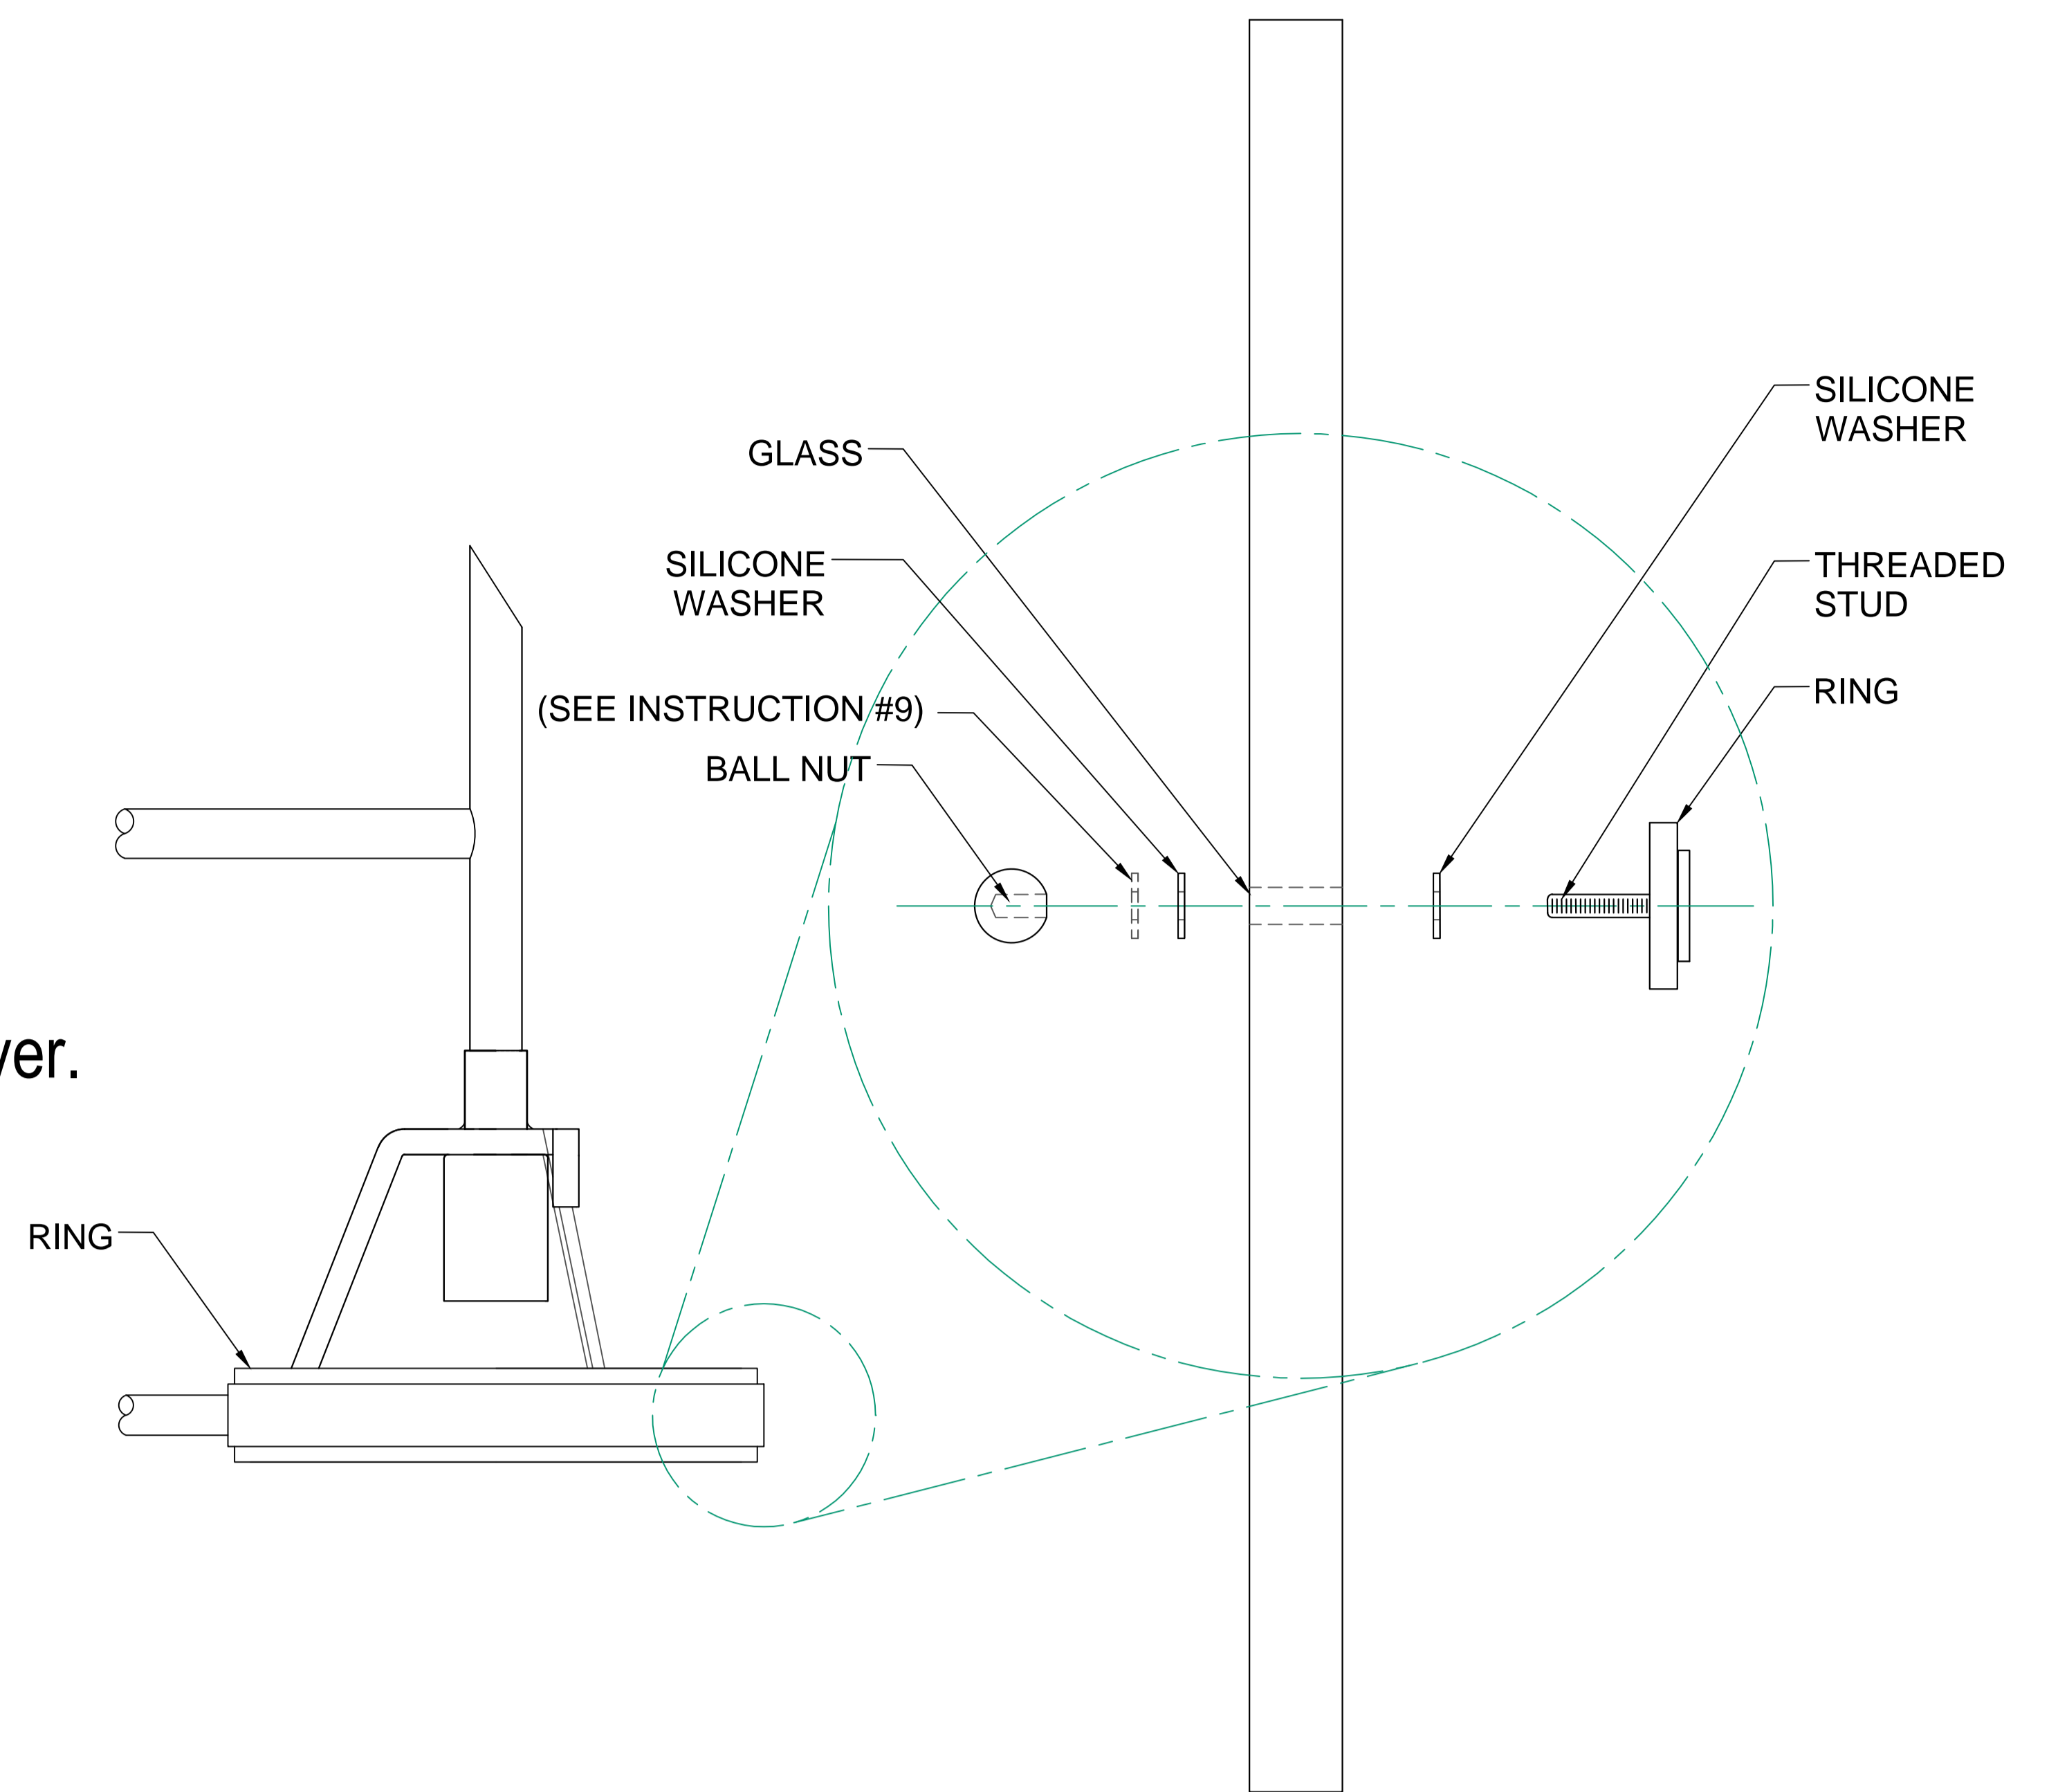

FIGURE-05
9. Install glass unto the ring and secure it with silicone washers and ballnuts.(See sequence on Figure-05) If the glass is thin and loose, add an additional silicone washer.